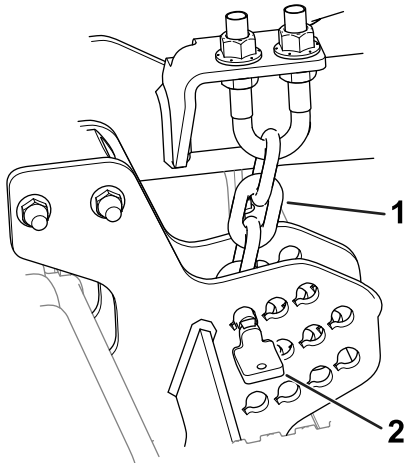

Figure 18
2. Remove the height-of-cut pins (Figure 18) from the cutting-unit side plates.